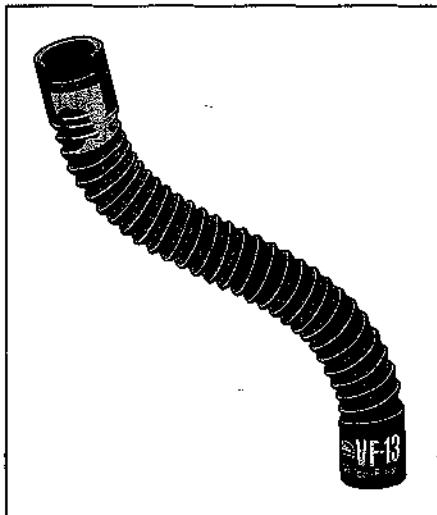

Figure 14-6:
- ✓ **If it's a bottom radiator hose:** The hose *must* have a wire coil inside it to help it keep its shape and withstand the vacuum caused by the water pump drawing water out of the radiator. In this case, look for a hose with a wire coil insert inside it (see Figure 14-6).